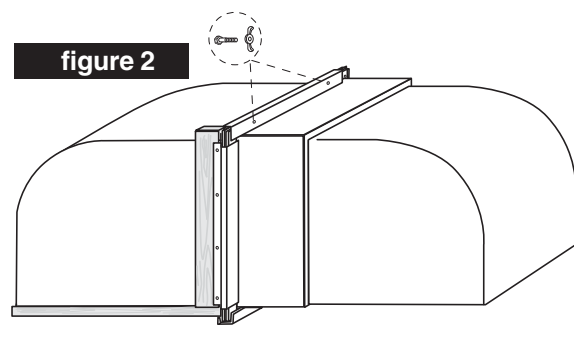

figure 2
- 4) **Secure in position** by drilling 5/16" hole through the plastic flanges of the transition hood and the fan. This is to be located in the upper right corner as shown (figure 2). Secure with 1/4" SS bolt and wing nut.